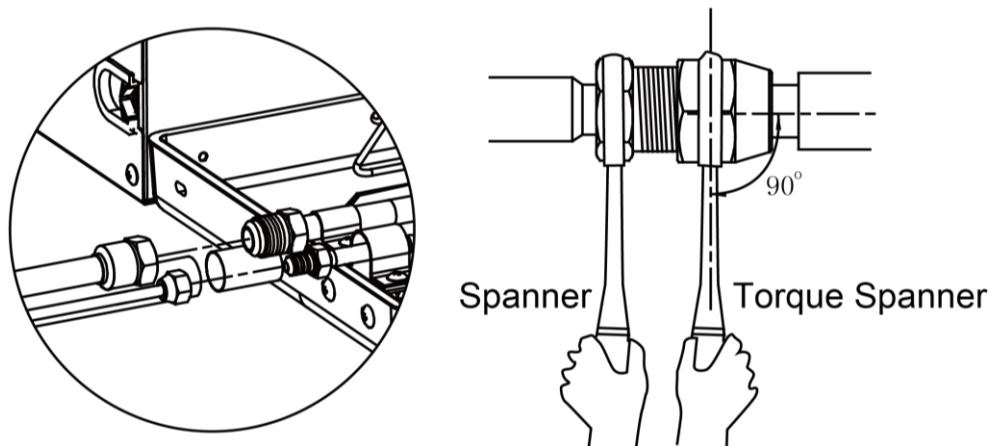

Fig.30
- (1) Conform to the following principles during piping connection: Connection pipeline should be as short as possible. The height difference between indoor and outdoor units should be as short as possible. Keep number of bends as little as possible. The radius of curvature should be as large as possible.
- (2) Weld the connection pipes between indoor and outdoor unit. Please strictly conform to the requirements for welding process. Rosin joints and pin holes are not allowable.
- (3) When laying the pipes, be careful not to deform them. The radius of bending parts should be more than 200mm(7-7/8in.). The pipes cannot be repeatedly bent or stretched, otherwise the material will get harder. Do not bend or stretch the pipe over three times at the same position.
- (4) Please use a torque wrench to connect union nut on the indoor unit. See Fig. 30.